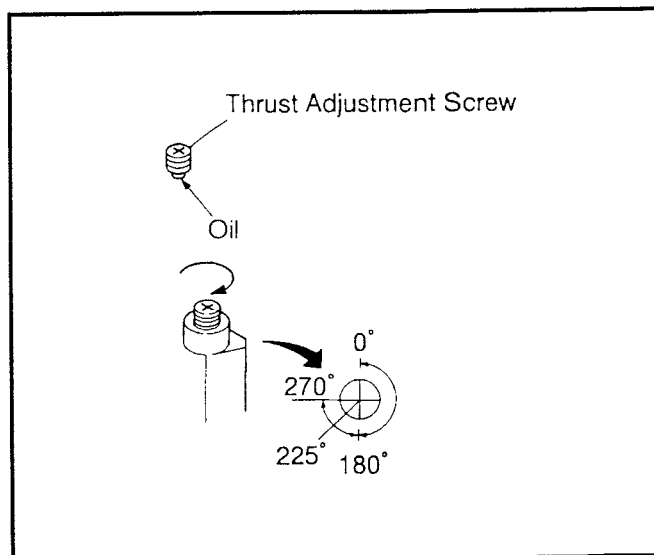

Fig. 6-24-2
5. Turn the Thrust Adjustment Screw another an angle of 270° from 180° (about 225°) clockwise as shown in the Fig. 6-24-2.